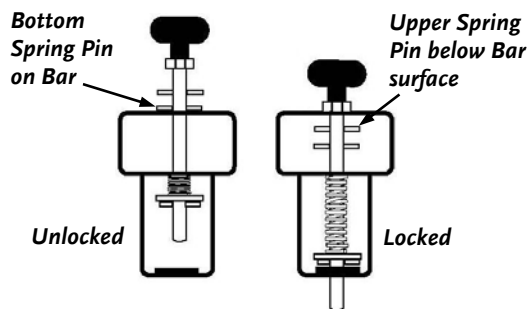

Figure 25b
2. Rotate the Handle again until the Bottom Spring Pin is 90° to the Slots in the Tow Bar and lower the Handle until the Bottom Spring Pin (**Figure 25b**) rests on the Tow Bar. This is the unlocked position.
NOTE: If the Tow Bar alignment is correct and the Locking Pin is properly positioned, the Upper Spring Pin will not be showing. If the Upper Spring Pin is still visible, adjust the Tow Bar angle by moving the Mower until the Locking Pin can be pushed down into place and the Upper Spring Pin is no longer visible (**Figure 25b**).